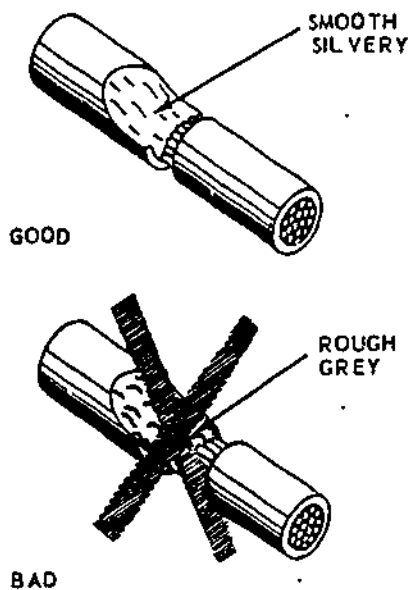

Figure 31.
d. Now, inspect the soldered joints for excessive solder or flux, burned insulation, solder covering entire length of exposed wires, and cold solder joints, figure 31. Other than excessive solder or flux, a resoldering job is required.